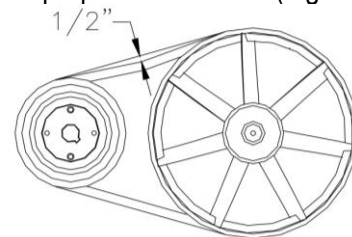

Figure 10
7. Check for proper belt tension. (Figure 10)